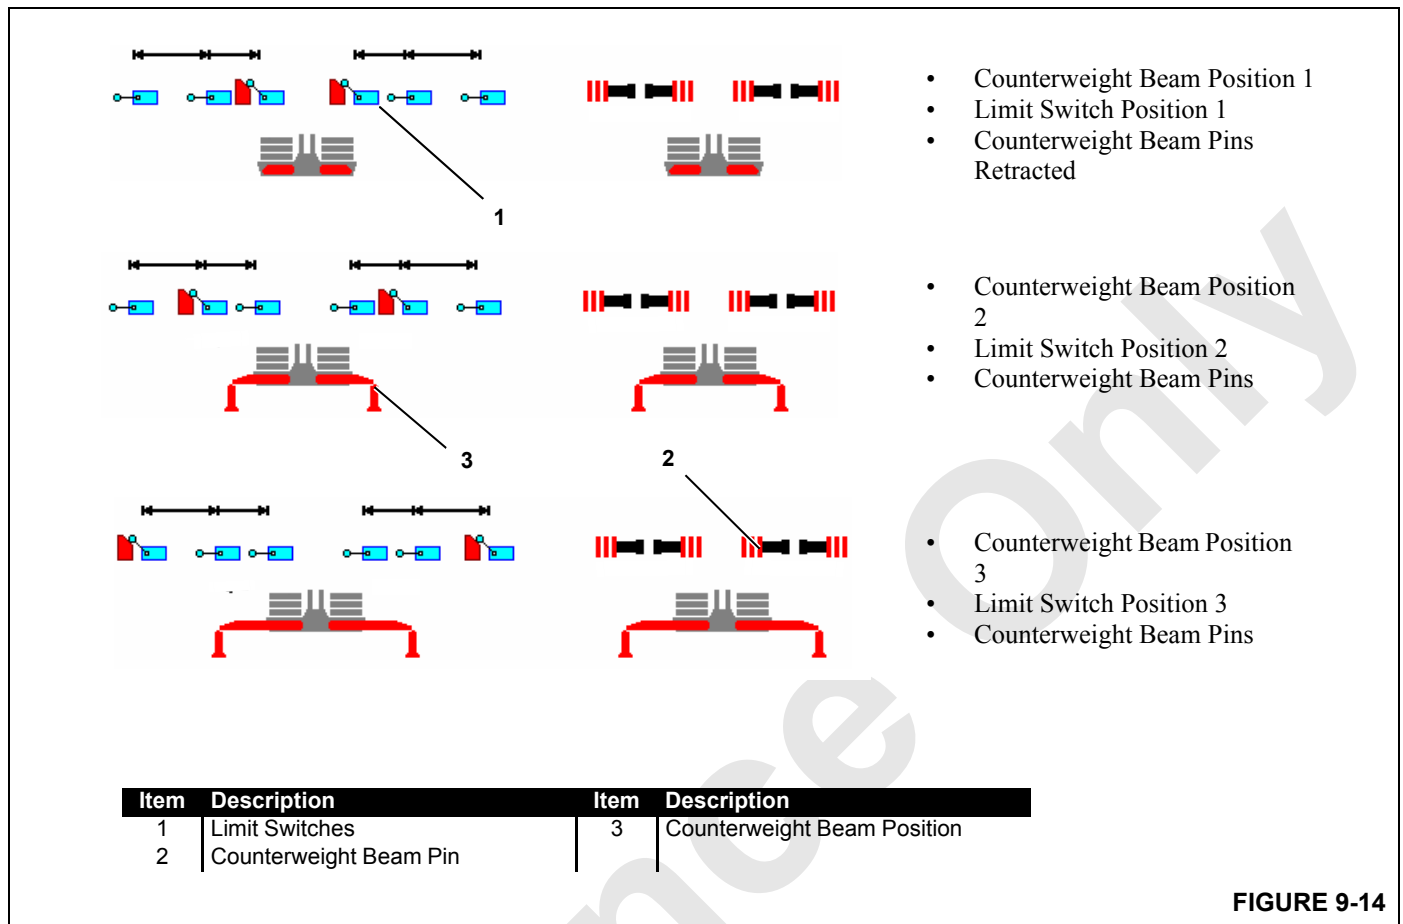

FIGURE 9-14
3. Observe the main screen as an indication of the location of the counterweight beam and counterweight beam pin. Refer to Figure 9-14 for indication that counterweight beam pin is RETRACTED or ENGAGED and the indicated position of counterweight beam.
3. Observe the main screen as an indication of the location of the counterweight beam and counterweight beam pin. Refer to Figure 9-14 for indication that counterweight beam pin is RETRACTED or ENGAGED and the position of counterweight beam.